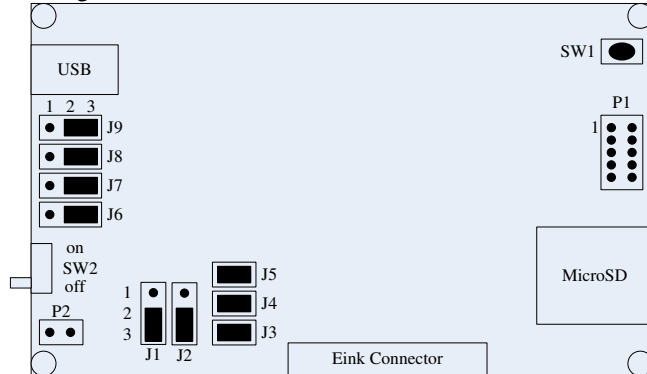
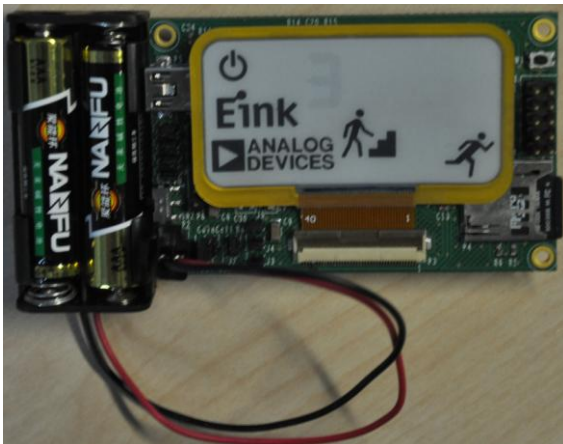

Figure 29. Correct Jumper Positions for Virtual Com
Figure 40. Data Logger with Portable Supply
6. Disconnect USB cable, configure the jumpers as shown in Figure 29 for virtual COM.
- It is recommended to power development board through USB as described in Figure 29 when evaluating ADXL362 DB GUI. For data logger, it is recommended to use high capacity AAA batteries or lithium thin cell to power the development board, and thus it integrates seamlessly into portable applications as shown in Figure 40.
- USB, all kinds of functions can be supported by USB supply. When using USB supply, please make sure the jumper J2 is at 2-3 position as shown in Figure 29 (There are notes on PCB board). There is a 3V LDO ADP3338 on the board which will switch 5V input to 3V for the following circuits.